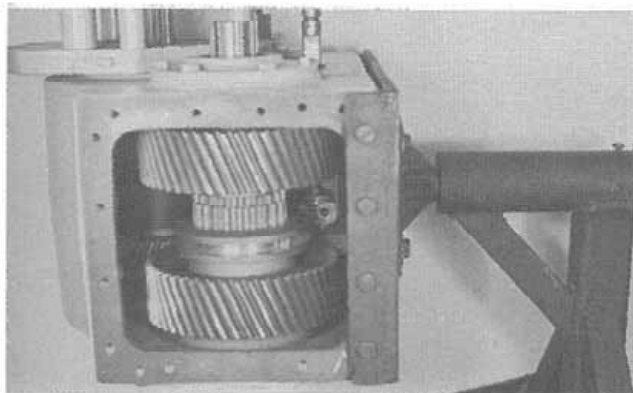

Figure 25:
19. Position the shift fork in the groove of the sliding clutch and install the shift rod (Fig. 25). Torque the fork capscrew 80 to 90 lb. ft. (11.06 to 12.44 Kg/M).